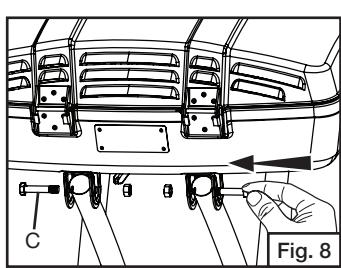

Fig. 8
- Attach ends of towing handle to grill with pivot bolts & nuts. (Fig. 8)